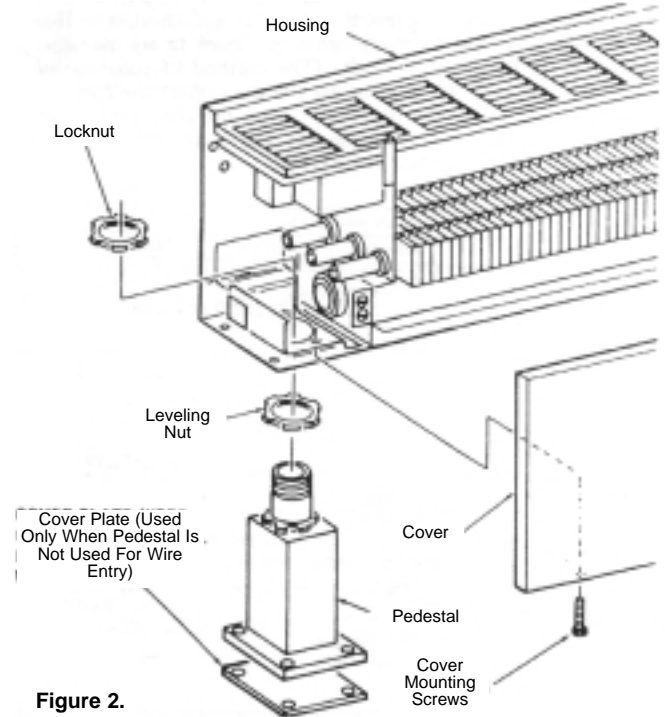

Figure 2.
**NOTE: When pedestal is not used for wire entry, pedestal base must be covered with cover plate (supplied with pedestal). See Figure 2.**
1. Remove front cover by removing mounting screws (Fig. 2)
6. Replace front cover and secure with mounting screws. (See Figure 2.)
1. Remove front cover by removing mounting screws (Figure 2.)
6. Replace front covers, and secure with mounting screws. (Figure 2.)